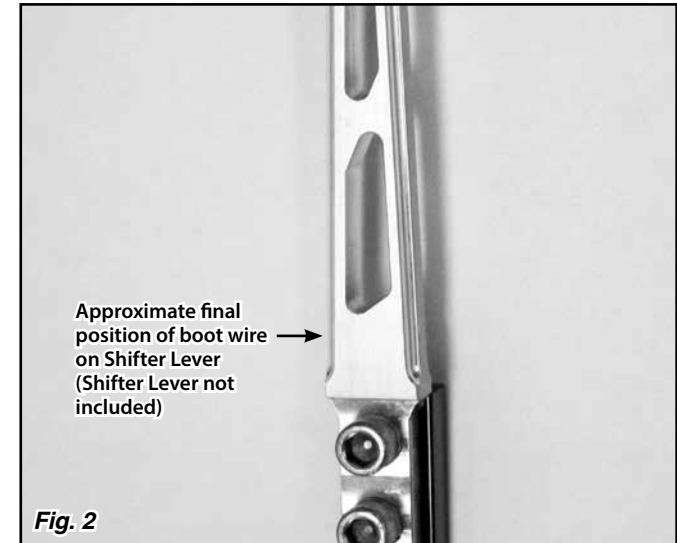
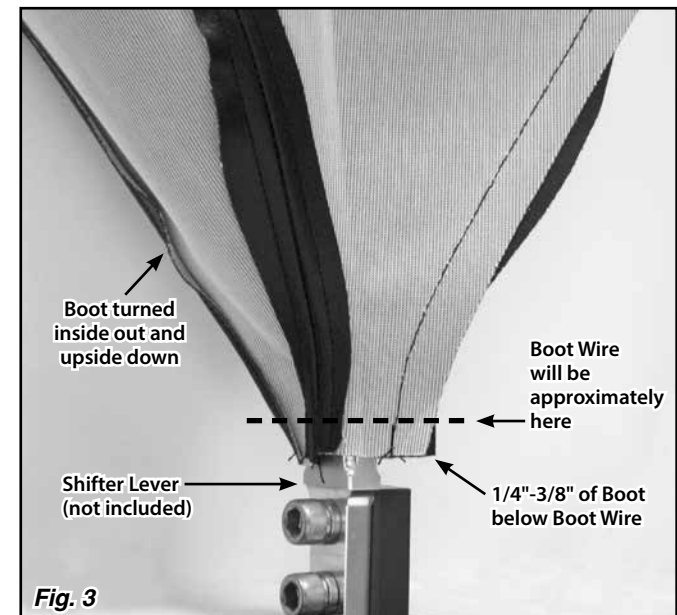

Fig. 2
Fig. 3
**Step 3:** Turn the Boot inside out and upside down. Slide the small end of the Boot over the top end of the Shifter Lever, and down to the desired height on the Shifter Lever. Place the Boot so approximately 1/4" - 3/8" of the Boot is below the position where you want the boot wire to be on the Shifter Lever. **Fig. 2 & Fig. 3**